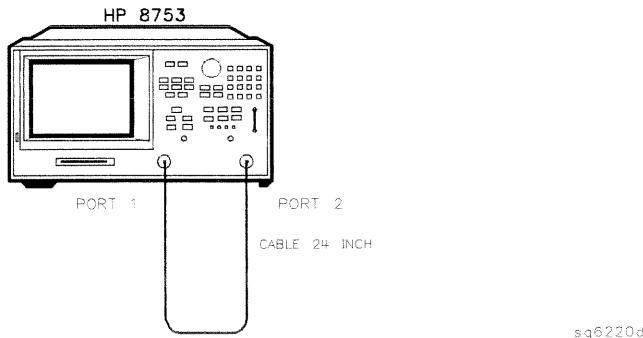

Figure 2-36. Transmission Calibration Test Setup
53. Connect the equipment as shown in Figure 2-36.